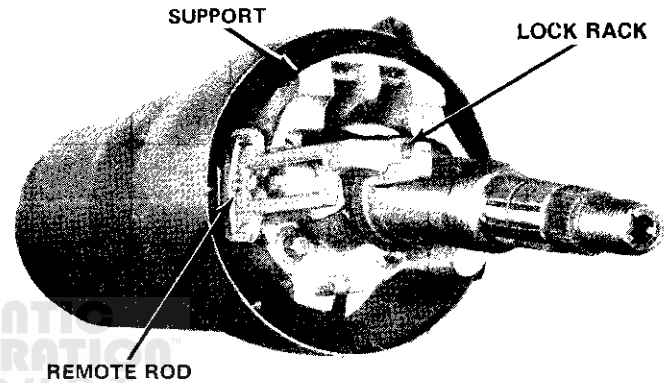

Fig. 2J-45 Lock Rack and Remote Rod Position
- (13) Install shift gate in support and install shift gate attaching screws.
- (14) Install support in shift bowl. Align V-notch in support with notch in column jacket (located at 9 o'clock position).
- (15) Install support attaching screws.
- (16) Assemble steering shaft.
- (17) Install steering shaft through upper end of column.
- (18) Install replacement ball bearings in housing if removed. Be sure there are 14 balls in each bearing.
- (19) Install tilt handle.
- (20) Insert ignition switch remote rod between shift bowl and column jacket, and into guide channel in left side of support.
- (21) Engage lock rack in remote rod (fig. 2J-45).